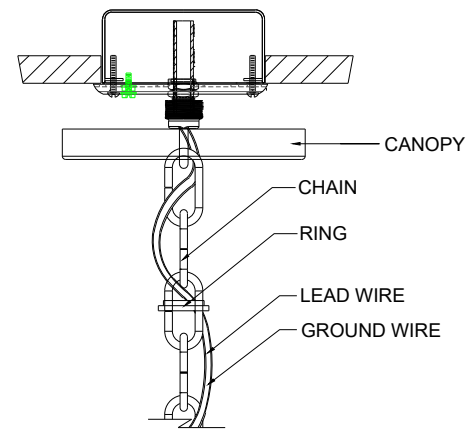

FIGURE-02
8. Slide the canopy up the chain and fasten using the threaded ring to the ceiling. (SEE FIGURE-02)